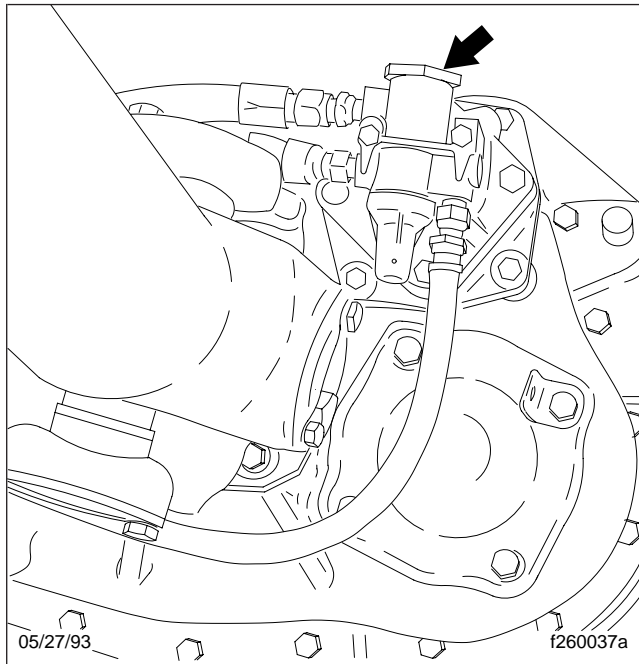

Fig. 4, Air Filter/ Regulator Location (Fuller transmission shown)
2. Clean the outside of the air filter/regulator with cleaning solvent, then let it air dry. See Fig. 4.